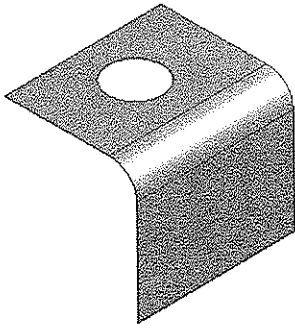

Figure 8-47 Circular cut created on the top face of the model
- 6. Next, choose the **Extrude** tool and then create a circular cut, as shown in Figure 8-47.